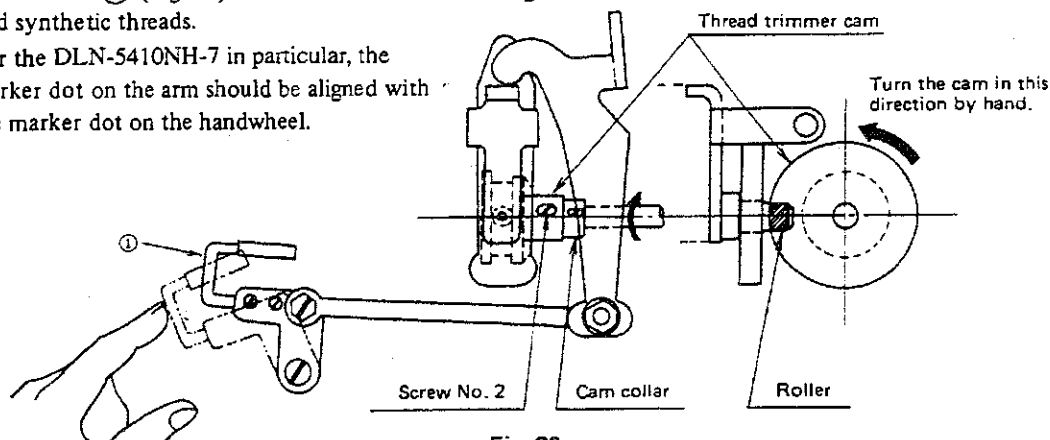
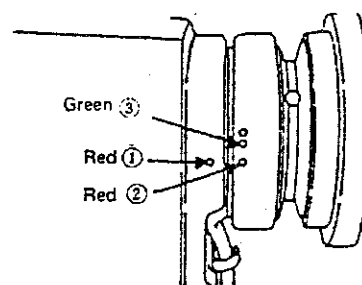

Fig. 20
Fig. 21
Tilt the machine head, manually turn the handwheel until the thread take-up lever almost reaches its highest position, and press thread take-up picker ① in Fig. 20 to the right by finger. This causes the cam roller to fit in the groove of the thread trimmer cam. With this condition maintained, turn the handwheel in the direction opposite to the normal rotational direction, and you will find a position in which the handwheel no longer turns. Then, adjust the cam timing so that marker dot ① (Fig. 21) on the machine arm is aligned with marker dot ② (Fig. 21) on handwheel as shown in Fig. 21. This provides the proper cam timing for cotton and synthetic threads.
Loosen screw No. 1 first, and then screw No. 2 (Fig. 20), and align red marker dot ② on the handwheel with red marker dot ① on the machine arm (Fig. 21).
Fit the cam roller in the groove of the cam while pressing thread take-up picker ① (Fig. 20) to the right. Manually turn only the cam (do not turn the hook driving shaft) in the direction opposite from the normal rotation of the hook driving shaft (see the arrow in Fig. 20) until a position in which the cam goes no further is reached. In
this position, press the cam against the thrust collar of the thread trimmer cam (Fig. 20), and retighten the screw No. 2 first and then the screw No. 1. If the cam collar has not been moved, press the thread trimmer cam against the cam collar, and retighten the screw No. 2 first and then the screw No. 1.
- ① A few beginning stitches are skipped.
- ② Thread slips off the needle at the start of sewing.
- ① Align marker dot ① (Fig. 21) on the machine arm with green marker dot ③ (Fig. 21) on the handwheel.
- ② Use the soft start function for the first starting stitch.
- ⑥ Align red dot ② (Fig. 21) on the handwheel with red dot ① (Fig. 21) on the machine arm.
Check whether the tension disc No. 2 floats 0.5 to 1 mm (0.019" to 0.039") when thread take-up picker ① (Fig. 20) is pressed to the right with the thread take-up lever located slightly below its highest position and the presser foot lifted.